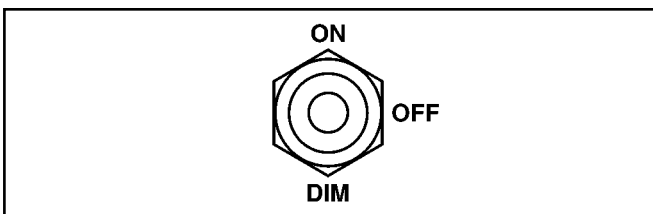

Figure 1-3 Power Switch
- **Power Switch.** (Refer to Figure 1-3) Allows operators to control power to the system.